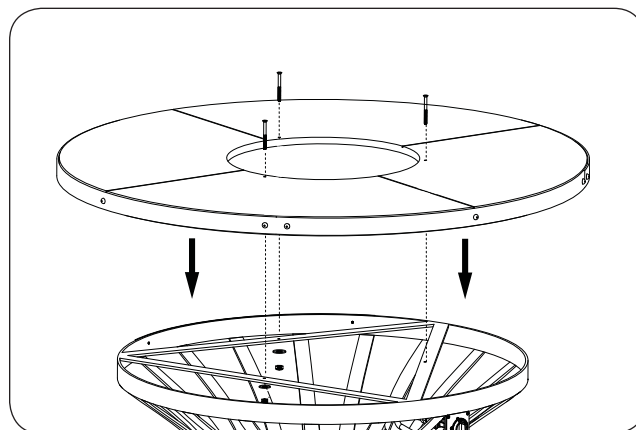

Fig. 22-3 Place top and fasten
4. **CAREFULLY** place the top on the unit, ensuring that the holes in the top piece align with the holes found in the bracket below (see Fig. 22-3).
5. Use a Phillips screwdriver and the supplied bolts (3), nuts (3), and washers (3) to fasten the top to the bracket as shown in Fig. 22-3.